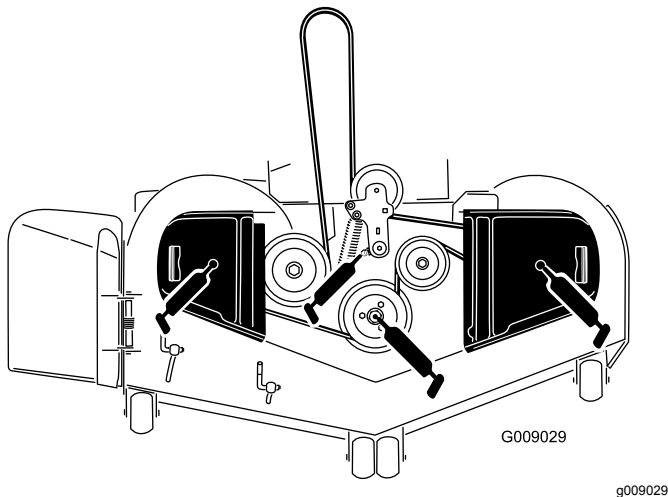

Figure 48
3. Grease the mower-deck idler pulley pivot until grease comes out the bottom (Figure 48).
4. If your machine has greasable spindles, grease the 3 spindle bearings until grease comes out the lower seals (Figure 48).